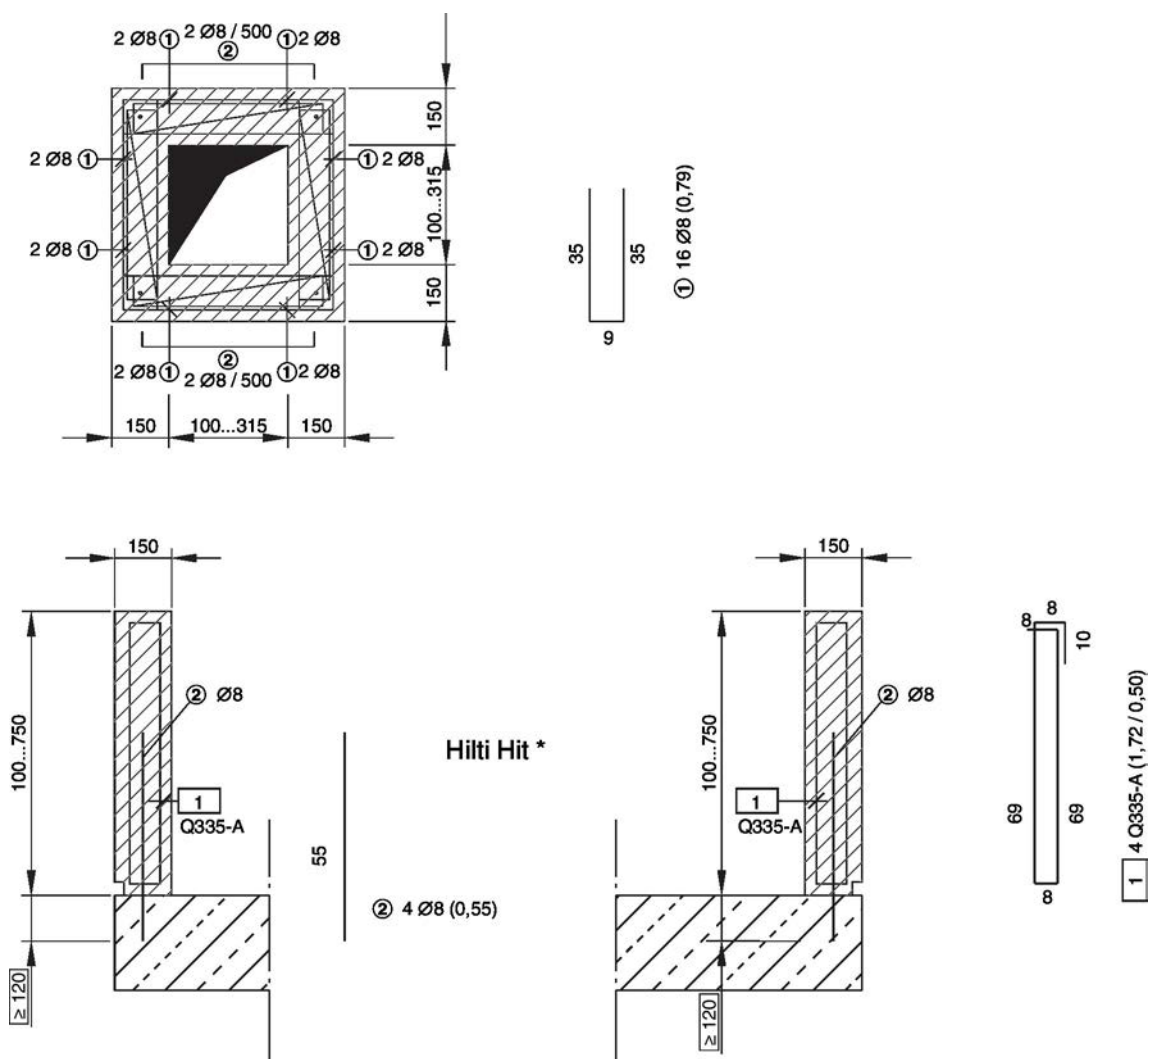

Fig. 23: Reinforcement plan for concrete bases with a height of 100 to 750 mm
| 4 | Concrete base according to the reinforcement plan, see Fig. 23 | B | Operating side     |
2. ▶ Create concrete base, for a reinforcement plan see Fig. 23 (or similar, e.g. with steel fabric).